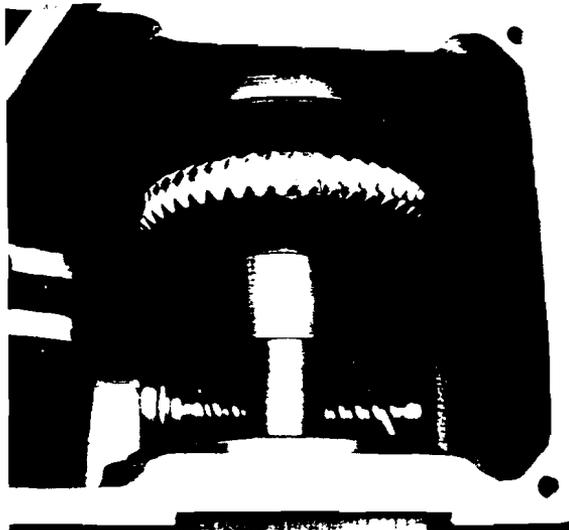

Fig. 55
- Place the eccentric shaft assembly in the gearbox without the rear connecting rod and turned 180°, so that the gears are not meshing. (Figure 55.)